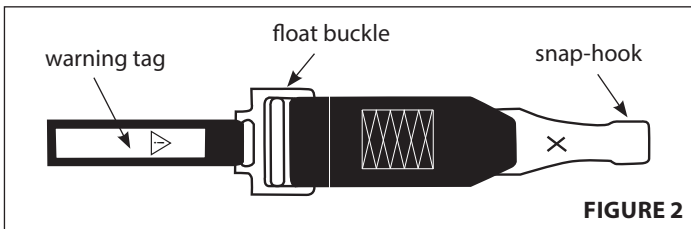

FIGURE 2
1. Hold float buckle so warning tag faces upward. **SEE FIGURE 2**